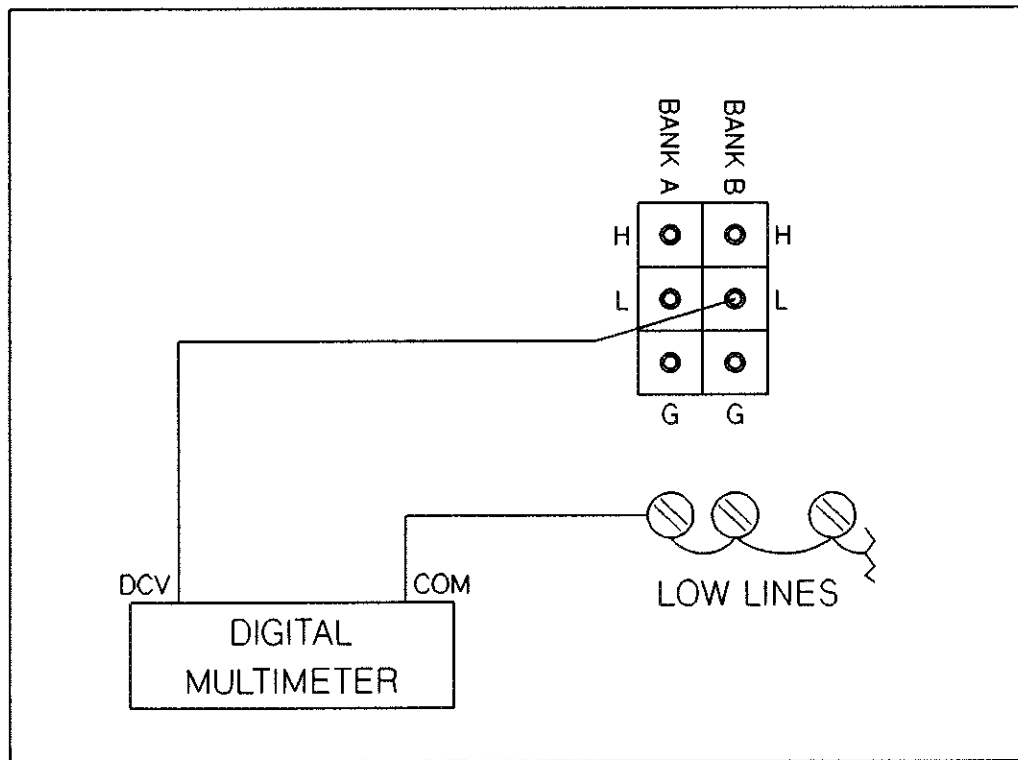

Figure 8-30 HP 44705A/H Bank B LOW to Common Thermal Offset
17. Connect the multimeter test leads between the Bank B common LOW test point and the shorted LOW connections of the test fixture as shown in Figure 8-30.